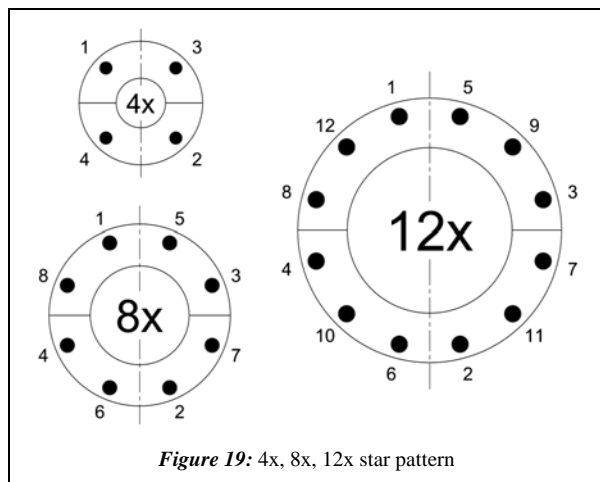

Figure 19: 4x, 8x, 12x star pattern
STEP 2: Start with 50% of the required torque and tighten the bolts in a star pattern (Fig. 19).
STEP 3: Now use 100% of required torque and tighten the flange bolts in a star pattern (Fig. 19).
STEP 2: Remove flange bolts (B) supporting the lower valve body (Fig. 19). Loosen, but do not remove, the flange bolts (A) supporting the upper valve body (Fig. 20).